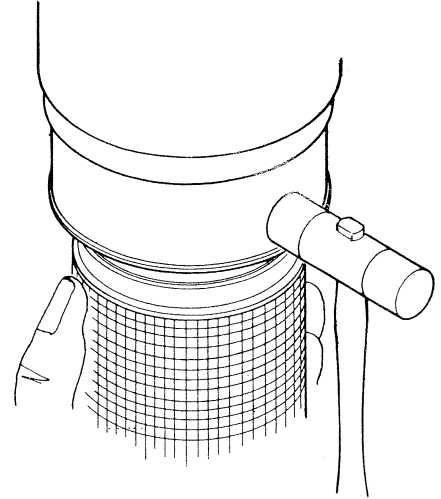

Fig.7
- 1) Remove front lens group by turning LF531-119S1 mounting ring counter clockwise as shown in Fig. 7.